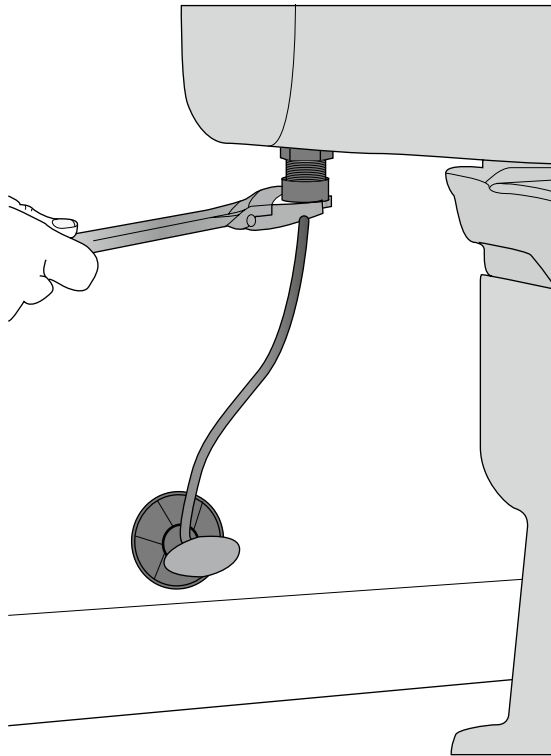

FIGURE 8-9:
7. Install the water-supply line. (See Figure 8-9.)